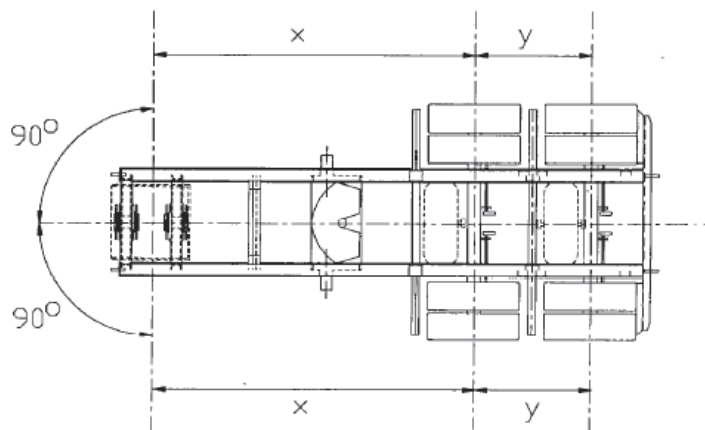

Figure 1 Dolly Converter Axle Alignment Diagram
17. The dolly converter axles are to be aligned so that the centre lines of the two axles are at right angles to the centre line of the dolly converter frame (Figure 1). The allowable tolerance for each dimension is ± 1 mm.